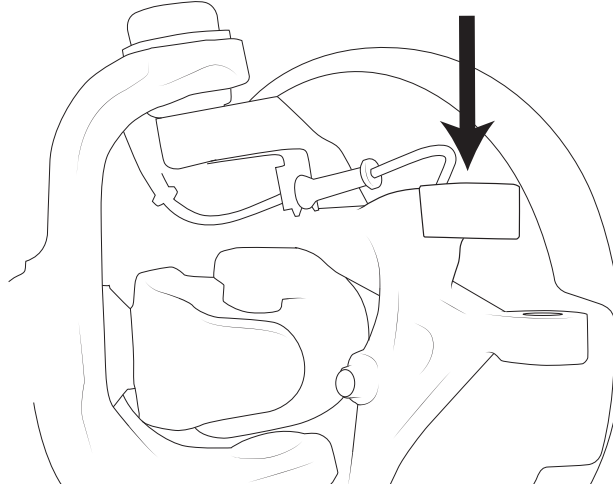

Figure 28
- A. First, drill out the tapered hole in the upper (draglink) arm on the passenger-side knuckle to make it a 7/8" diameter straight hole as shown (Fig. 28). Be sure to drill as straight and steady as possible to avoid a loose connection. Insert the supplied taper-to-straight adapter sleeve into the hole.